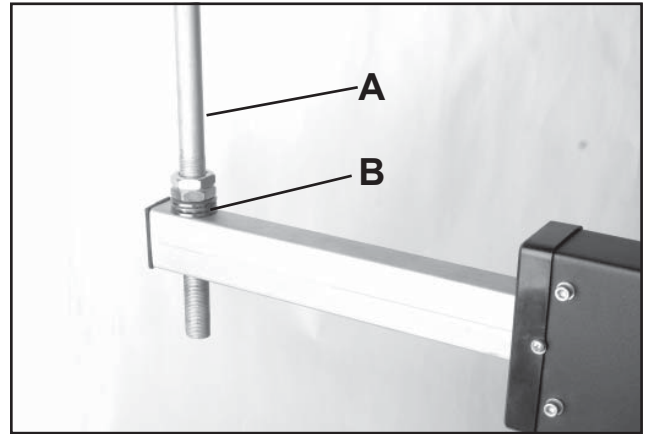

Figure 9
1. Insert the support arm into the swing arm extension bar as shown (A, Fig. 9) making sure that bearing assembly rests between the adjusting nuts and the swing arm extension bar (B, Fig. 9).